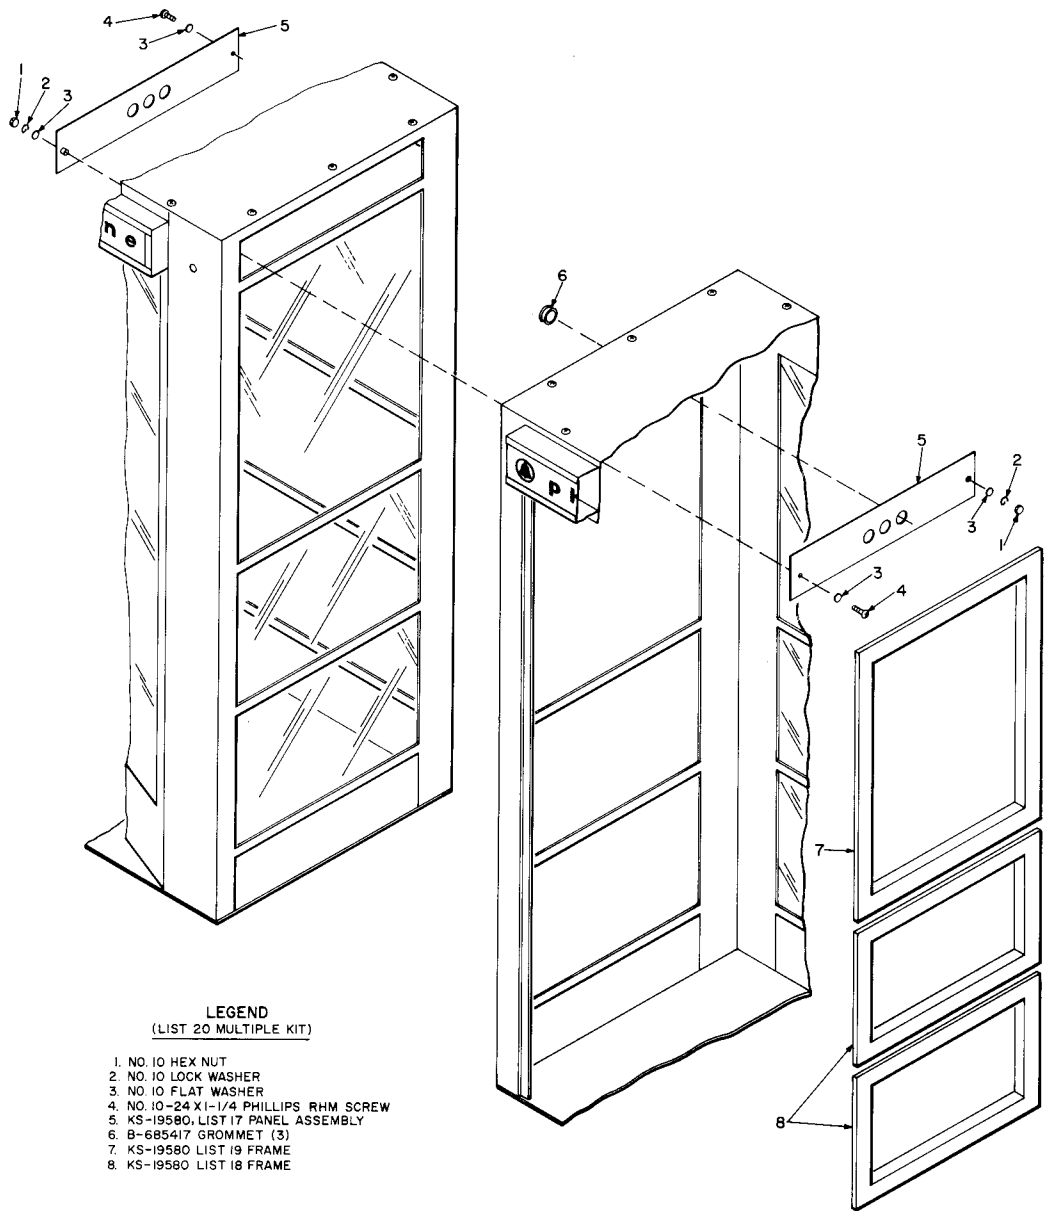

Fig. 9—KS-19580, List 20 Multiple Kit
2.29 A KS-19580, List 20 multiple kit (Fig. 9) is available for side-by-side or back-to-back assemblies.